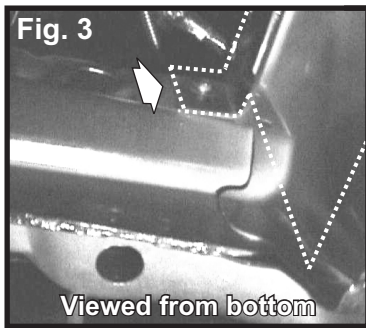
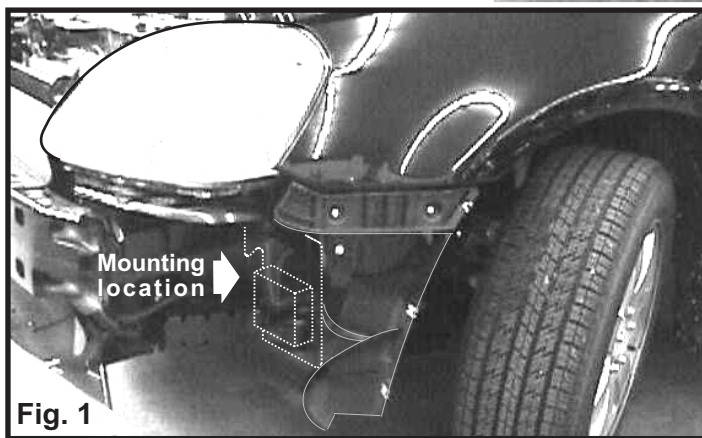

Fig. 3
Fig. 1
NOTE: Figure 1 shows the mounting location of the speaker bracket with the front of the vehicle removed for visual reference. You do not need to remove any parts from the vehicle. You will only need to lower the front gravel shield to make this installation.
2. With the gravel shield lowered, locate the mounting area (Fig. 1). The "tab" that protrudes from the side of the bracket will be secured to the vehicle using an existing bolt (Fig. 3). The top of the bracket will mount to two existing holes in a metal support on the vehicle. **IMPORTANT NOTE FOR 2007 MODELS ONLY: On 2007 models these holes must be enlarged to accommodate the 5/16 bolts.** Before installing, position the bracket in its mounting area and locate the three mounting holes you will use.